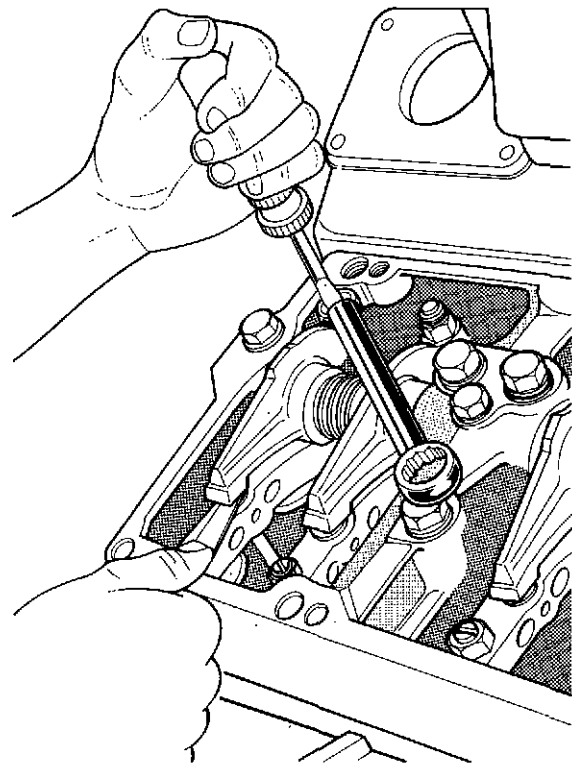

Fig. 23 Tappet clearance setting
- 78 Using the appropriate sized feeler gauges between the valve bridge button and the rocker arm pad, (fig. 23), set the tappet clearance for the 'A1' inlet valves to 0,20 mm (0.008 inch). Tighten the adjusting screw locknut to a torque loading of 40 Nm (30 lbf.ft.).